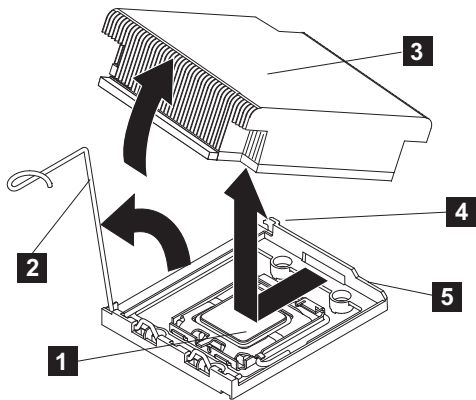

Figure 295. Removing the heat sink from the SAN Volume Controller 2145-CG8 or 2145-CF8 microprocessor
8. Disconnect any cables that impede access to the heat sink (**3** in Figure 295 on page 358) and the microprocessor (**1**).